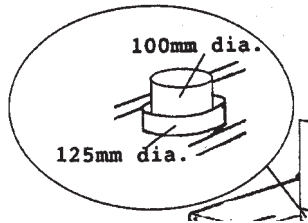

fig. 8
6. Secure the vent connector unit to the flue pipe or chimney liner. The flue connector outer collar is for connection to a 125 mm (5 inch) internal diameter pipe or liner. The inner collar is for connection to a 100 mm internal pipe or liner (see fig. 8).